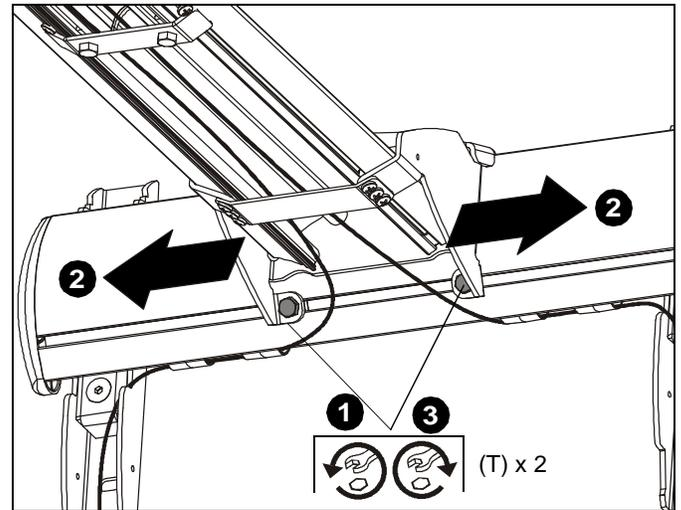

Figure 38
1. Loosen two 1/4-20 x 5/8" hex head cap screws (T) on underside of mounting bracket. (See Figure 38)
2. Adjust projector arm laterally to desired position. (See Figure 38)
3. Tighten two 1/4-20 x 5/8" hex head cap screws loosened in Step 1. (See Figure 38)